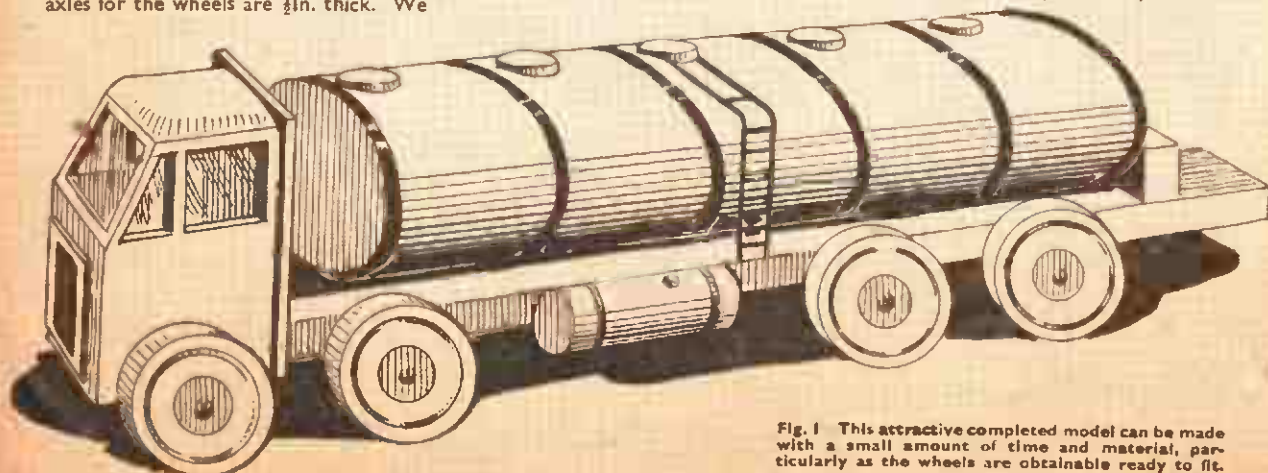

Fig. 1 This attractive completed model can be made with a small amount of time and material, particularly as the wheels are obtainable ready to fit.
The roof of the cabin is next made, and a piece of ½ in. wood measuring 3 in. by 1½ in. is wanted for this. The squared up piece, just as it leaves the saw may be glued in place on the cabin sides and to the back (C). The shaping is afterwards done on three edges as seen in Figs 1 and 2. If preferred, however, the shaping could be done before the roof is glued on. Add one or two small gluing blocks where possible to add to the strength of the joints; they should be put along inside where not particularly seen.